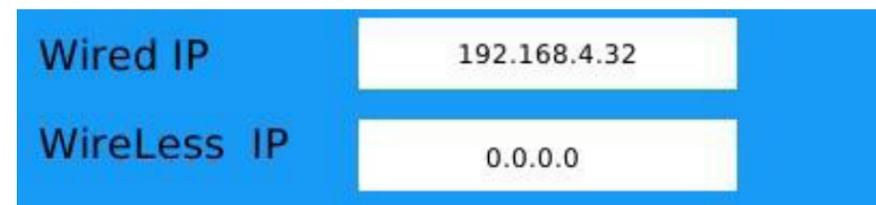

Figure 73. Locate device IP address
4. Locate the shaker's IP address ("Wired" or "Wireless", depending on your setup) in the Network submenu (Figure 73).